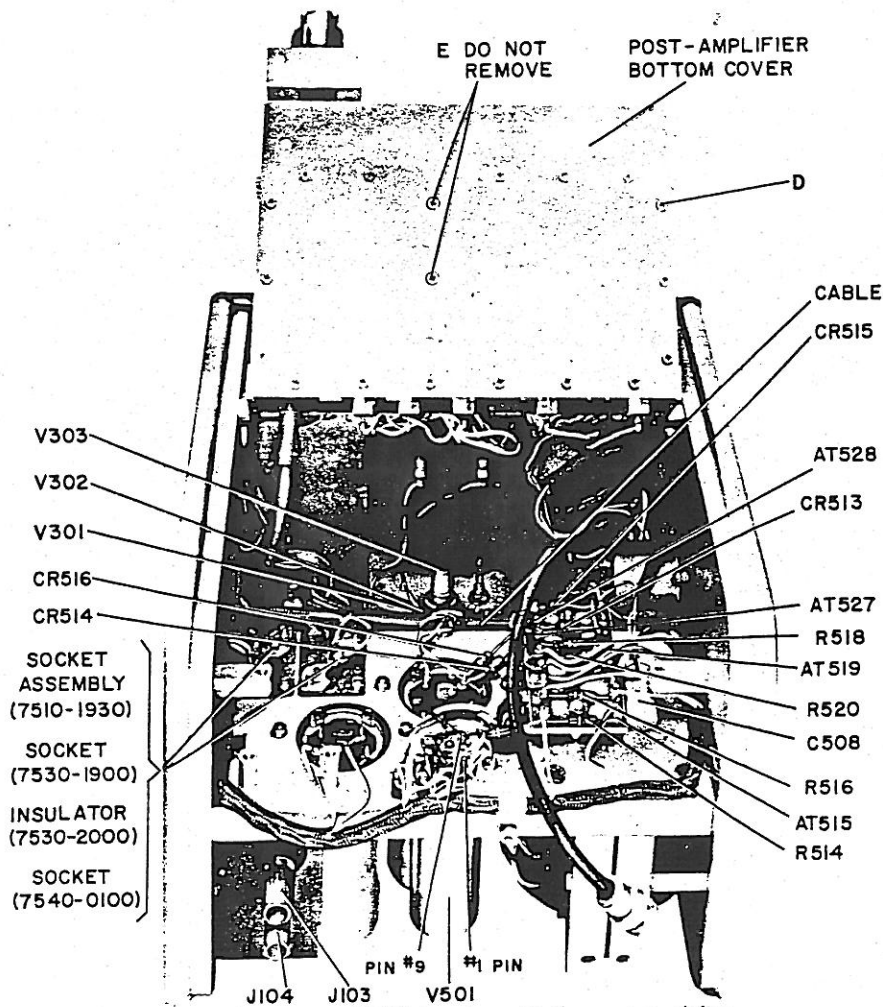
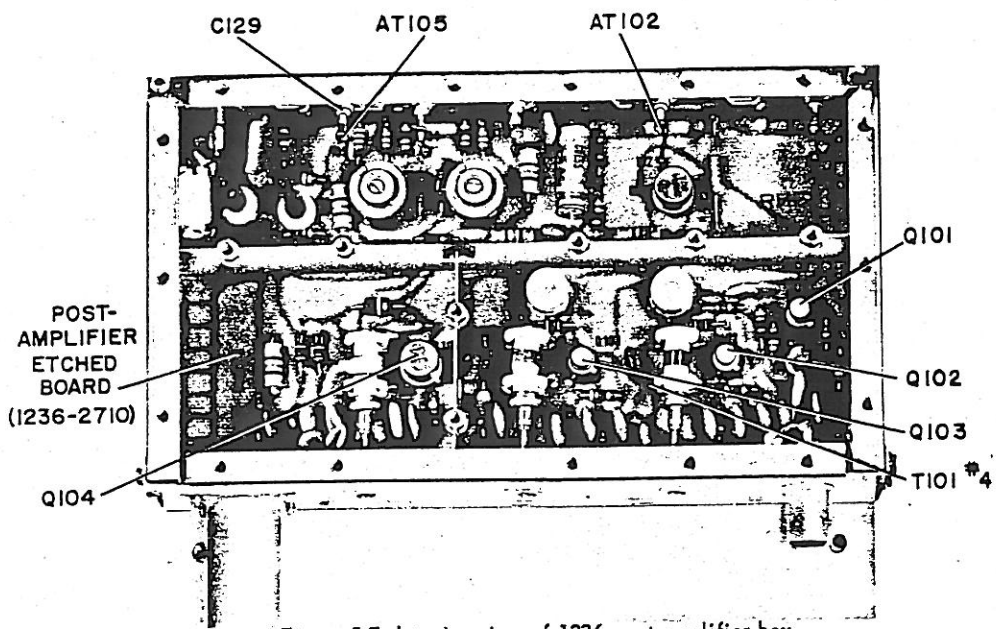
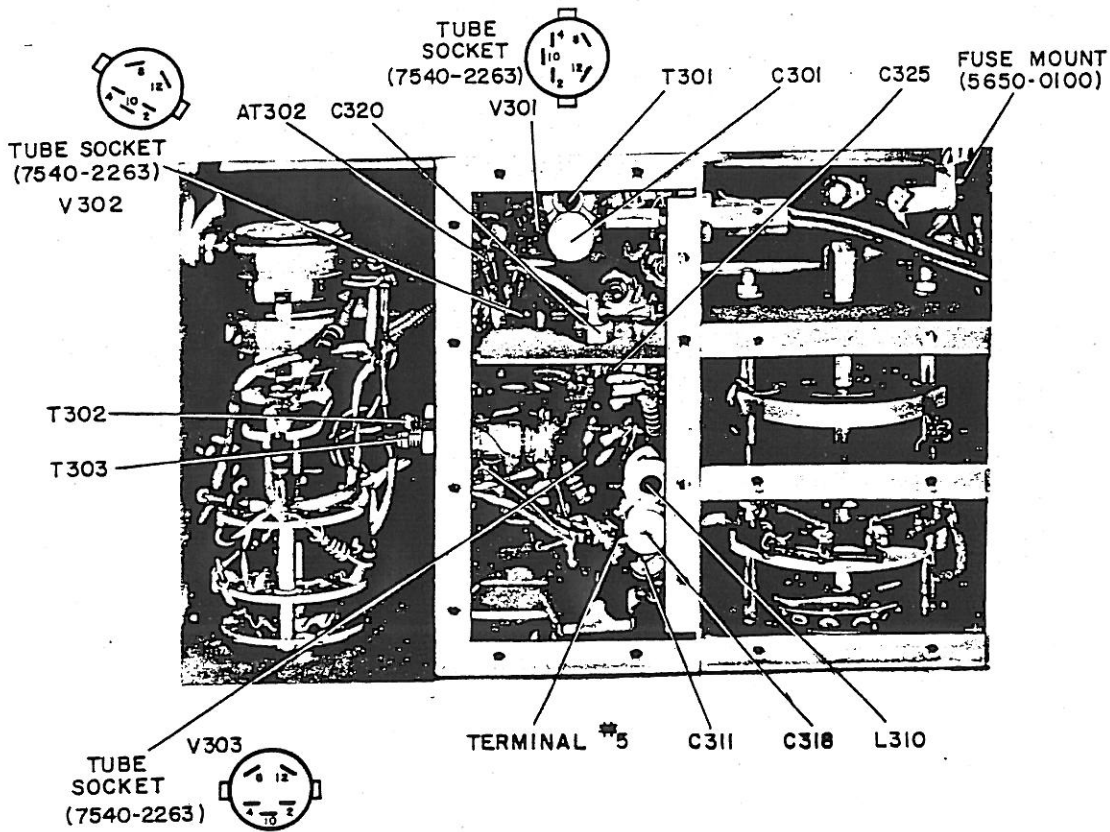
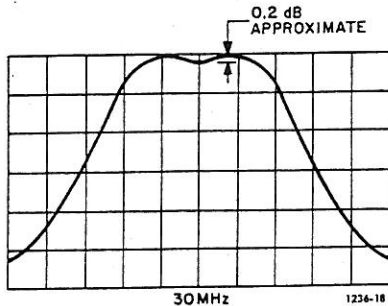

Figure 5-5. Rear view of 1236 interior with the post-amplifier box raised to its vertical position.
Figure 5-7. Interior view of 1236 post-amplifier box.
Figure 5-8. Interior view of 1236 attenuator/preamplifier box.
Figure 5-9. 1236 bandpass curve centered around 30 MHz.
- c. Connect C129 (feedthrough capacitor at AT105 in the postamplifier box, see Figure 5-7) to the oscilloscope input. (Connect C129 to the EXTERNAL RESPONSE DETECTOR jack on the generator if the GR 1025 Standard Sweep Generator is used.) Adjust the oscilloscope sensitivity so that full-scale spot deflection on the screen corresponds to full-scale deflection on the amplifier meter. Set the generator output to 200  $\mu$ V OPEN-CIRCUIT VOLTAGE and switch to the sweep mode. The bandpass curve on the oscilloscope should have a 5-MHz bandwidth at the 3-dB points, centered around 30 MHz, and a full-scale vertical deflection at 30 MHz.
a. Turn the amplifier upside down and remove the cover on the preamplifier-attenuator box. Connect the attenuator cable to the postamplifier. Measure the dc voltage from C320 (see Figure 5-8) to ground. If this voltage is greater than 6.3 Vdc, interchange V301 and V302 (see Figure 5-5).
b. Connect the sweep generator to the amplifier input via the 50  $\Omega$  - 400  $\Omega$  matching pad as described in step a of the preamplifier performance check. Make certain to connect the 400- $\Omega$  side of the pad directly to the amplifier. Connect the input of the oscilloscope to AT302 (see Figure 5-8), using the detector probe. (If the GR 1025 is used, connect the EXTERNAL RESPONSE DETECTOR to AT302 via the detector probe.)
Connect a 100- $\Omega$  resistor between terminal #5 (see Figure 5-8) on the bandwidth switch, and ground.
d. Switch the generator to the SWEEP mode and increase the generator output until the bandpass curve is displayed on the oscilloscope (vertical deflection, maximum 50 mV/cm). Adjust C301 and T301 (see Figure 5-8) for a maximally flat bandpass curve centered around 30 MHz. See Figure 5-9. (Start the T301 adjustment with the tuning slug screwed all the way in toward the threaded end of the coil form.)
f. Set the amplifier METER SCALE switch to NORMAL and the ATTENUATION to 30 dB. Shut off the generator SWEEP mode and set the frequency to 30 MHz. Adjust T302, L310, and C318 (see Figure 5-8) for maximum amplifier-meter deflection. After initial adjustment, do not touch T301, and repeat L310 and C318 adjustment for maximum meter deflection.
Set bandwidth switch to NARROW and adjust T303 and C311 (see Figure 5-8) for maximum meter deflection. Switch to WIDE bandwidth.
g. Connect C129 (see Figure 5-7) to the oscilloscope input. If the 1025 is used, connect C129 to the EXTERNAL RESPONSE DETECTOR jack on the sweep generator. Set the sweep generator to SWEEP and adjust T302, if necessary, (see Figure 5-8) to obtain a symmetrical curve around 30 MHz. Switch to the NARROW bandwidth. Again, the response curve should be symmetrical around 30 MHz. Readjust T303 and C311 if necessary.
30 MHz. Switch the ATTENUATION to 0 dB and adjust the generator output for a 0-dB reading on the amplifier meter. Switch the ATTENUATION to -10 dB. The meter should read 10  $\pm 0.2$  dB. If the reading is too low, turn the SWEEP back on and adjust L310 (see Figure 5-8) so that the peak of the curve moves slightly to the right of 30 MHz. Bring the peak back to 30 MHz by adjusting C318.